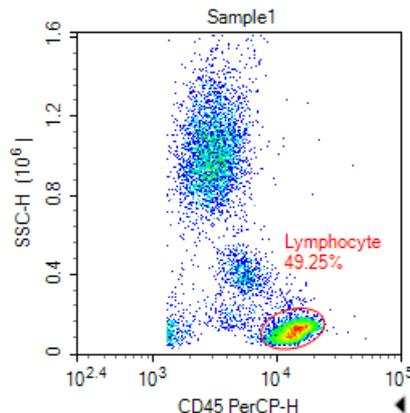

Figure 3-5 Create Density Plot and Draw Lymphocyte Gate
- In the *Workspace*, create a density plot by clicking the *Density Plot* button  from the toolbar. Change the x-axis parameter to *CD45 PerCP-H* and the y-axis parameter to *SSC-H* (Figure 3-5). Use the *Zoom In* tool , to display the appropriate coordinate range for the sample. Draw an *Elliptical Gate* to gate the lymphocyte population on the plot, and rename the gate as *Lymphocyte*.